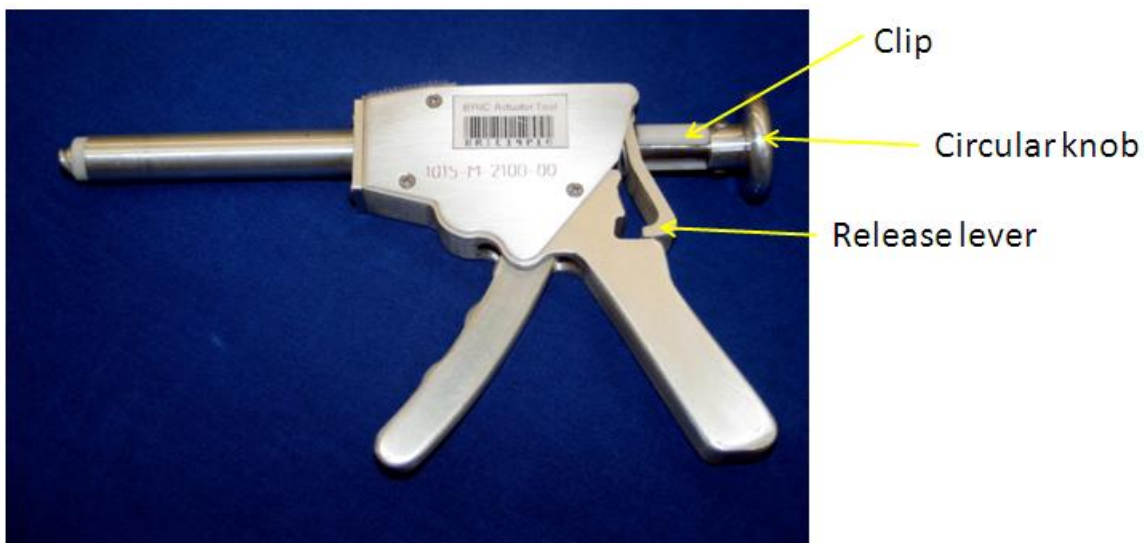

Figure 1. Actuator Tool.
- 1.4 Unstow BRIC Actuator Tool (shown in Figure 1) and BRIC Actuator Rod kit.